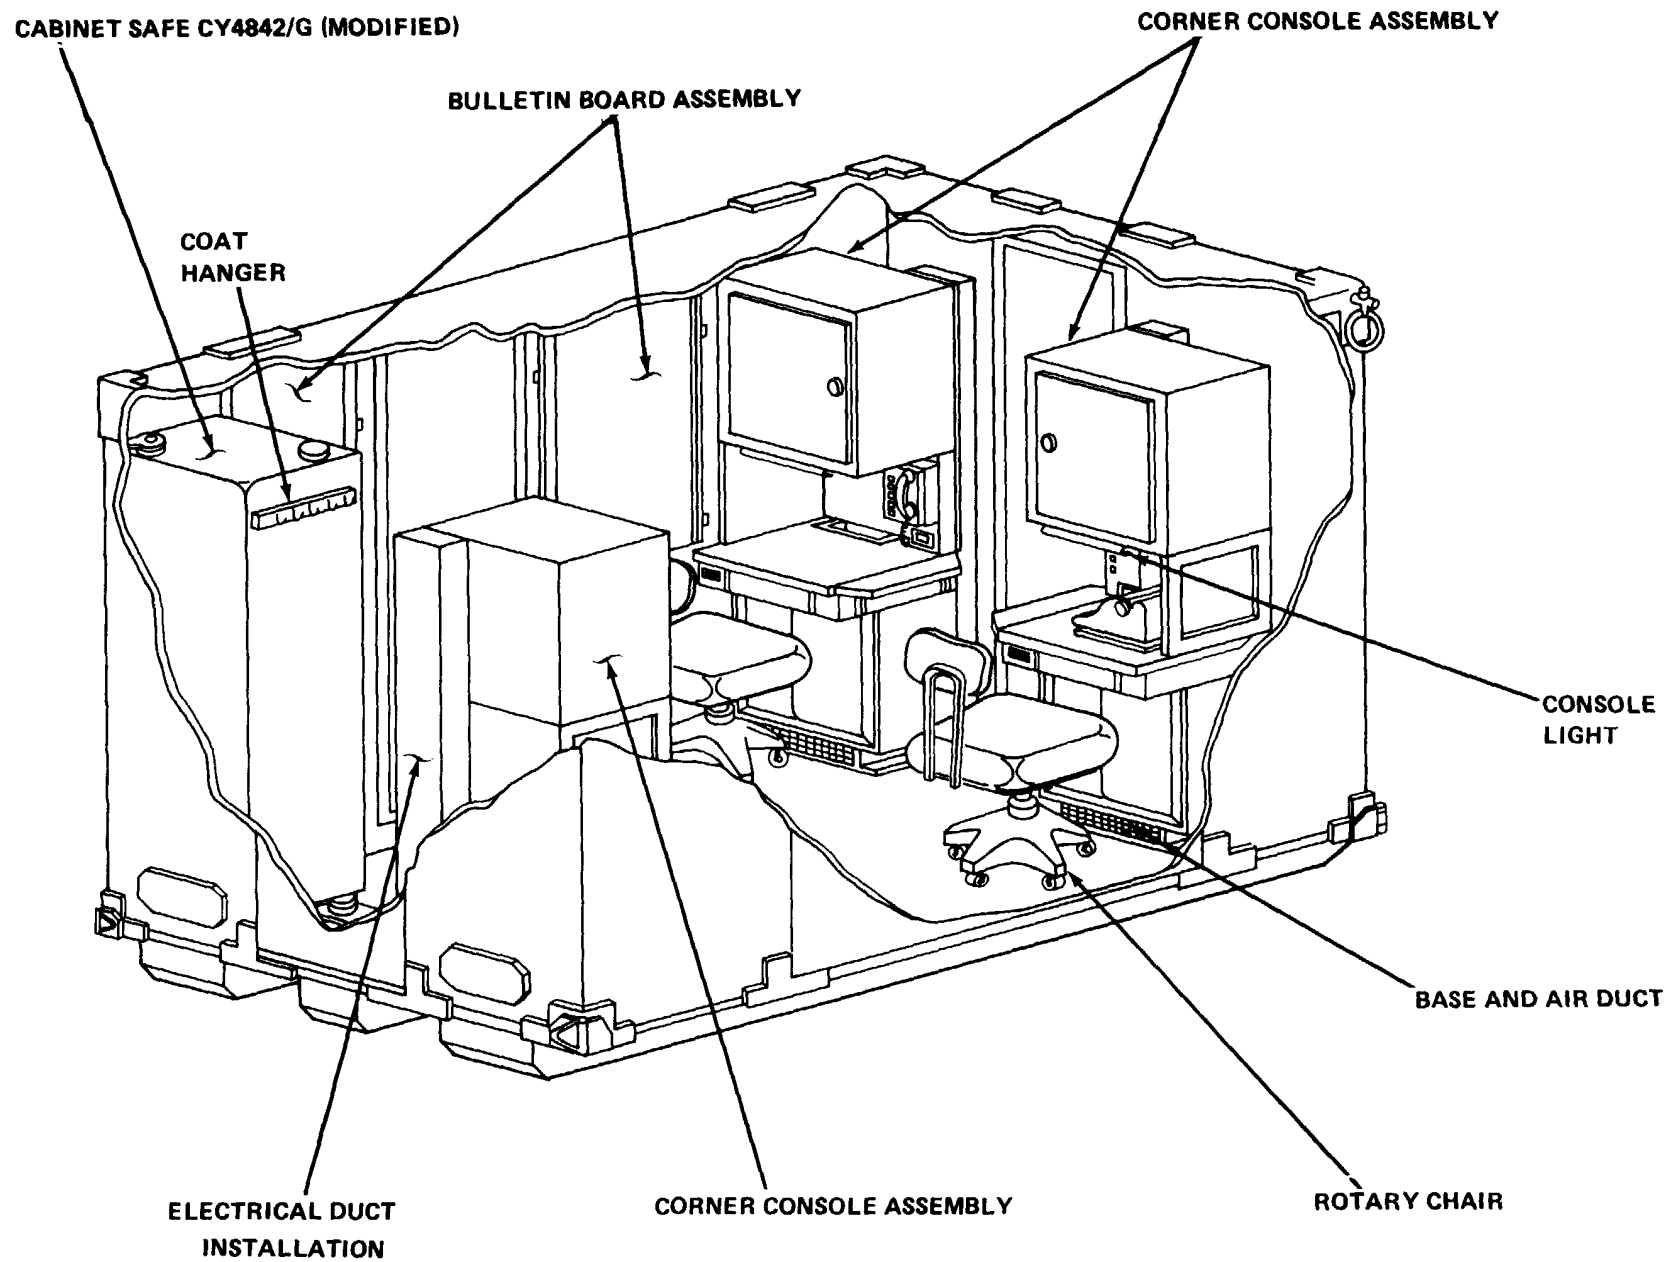

Figure 1-1. Administrative Control Central AN/TSQ-79
1-1 SCOPE. This manual provides operator/crew, organizational, direct support, and general support instructions for the installation and maintenance of Administrative Control Central AN/TSQ-79 (figure 1-1). A repair parts and special tools list is also included.
a. The Administrative Control Central AN/TSQ-79 (figure 1-1) is a portable administrative office facility.
1-8 DESCRIPTION OF CENTRAL. Refer to figure 1-1.
(1) *Base and Air Duct*. Refer to figure 1-1. A base and air duct assembly is provided below the lower cabinet.
(8) *Console Light*. Refer to figure 1-1. There is a console light mounted under the upper cabinet of the corner console. This light is a 15-watt, 12-inch fluorescent lamp with a push-button switch and a reflector shade.
c. *Cabinet Safe*. Refer to figure 1-1. A cabinet safe is located in one corner of the central. The safe provides storage capabilities for use within the central.
d. *Rotary Chair*. Refer to figure 1-1. Three rotary chairs are provided in the central. Each chair is provided with a tiedown assembly which is directly beneath the centerpost of the chair. The tiedown assembly locks into a keyslotshaped socket when the central is to be transported.
e. *Coat Hanger*. Refer to figure 1-1. The coat hanger is mounted to the side of the cabinet safe.
f. *Bulletin Board Assembly*. Refer to figure 1-1. Two bulletin board assemblies are mounted on each side wall of the central. Their approximate dimensions are 27 by 42 inches.
h. *Electrical Duct Installation*. Refer to figure 1-1. Three special electrical ducts in the central are located behind each corner console and extend from the floor to the top of the corner console. Each duct has an opening with a gasket against which the electrical duct extension fits; each duct has a side access plate. The three special electrical ducts have neoprene flaps on the top of the duct. One of the ducts has the wires for the clock passing through the flaps. The flaps are not used in the other two ducts. There is a standard electrical duct behind the cabinet safe.